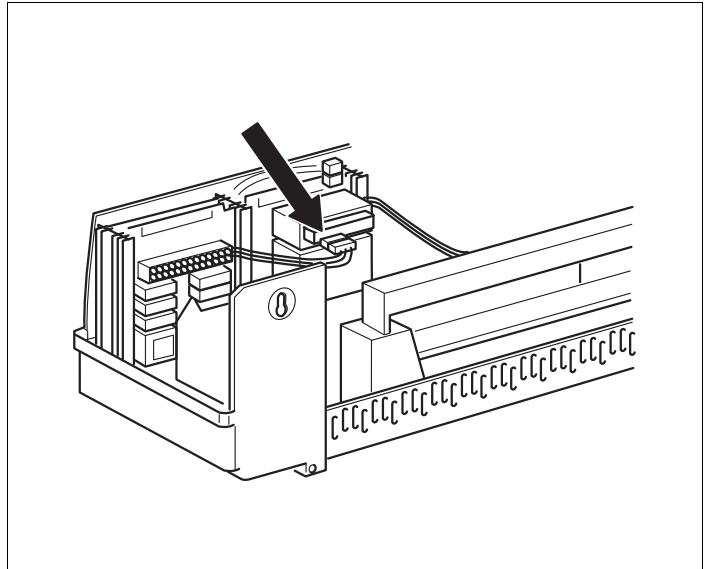

Fig 16 Providing the 230 V power supply
- Plug the 230 V module connector into the correct position on the terminal strip (for module connection at slot 2, → Fig. 16).